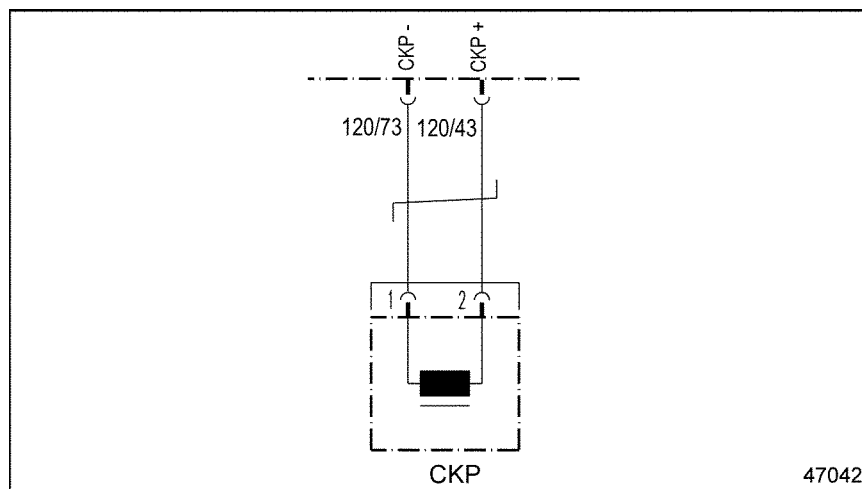

Figure 23-1 Crankshaft Position Sensor Wiring
1. If fault occurs only when cranking the engine (and engine will not start), check that the CKP and Camshaft Position (CMP) sensors are correctly wired to the MCM. See Figure 23-1.